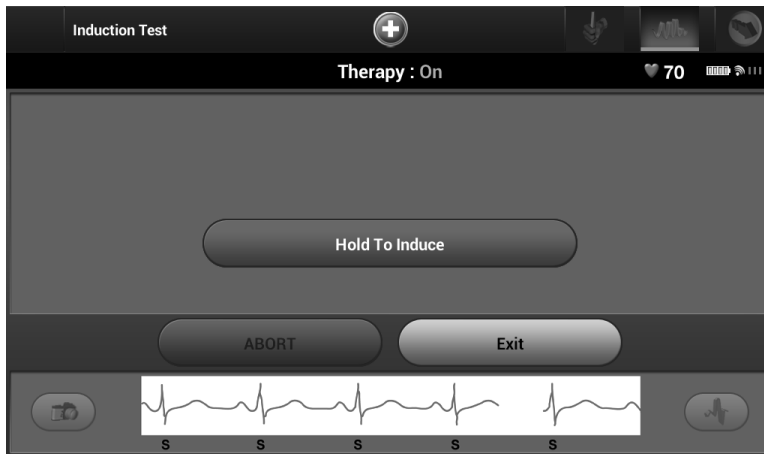

Figure 33: *Induction Test screen*
6. Select and hold the Hold To Induce button for the desired duration (Figure 33).